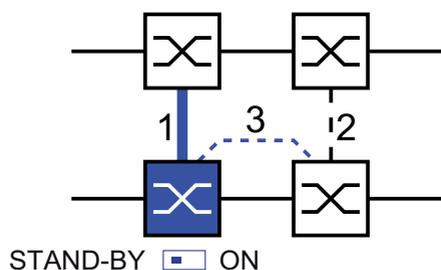

Figure 22: Two-Switch coupling with control line
- Select „Two-Switch coupling with control line“ by means of the dialog button with the same graphic as below (see figure 22).